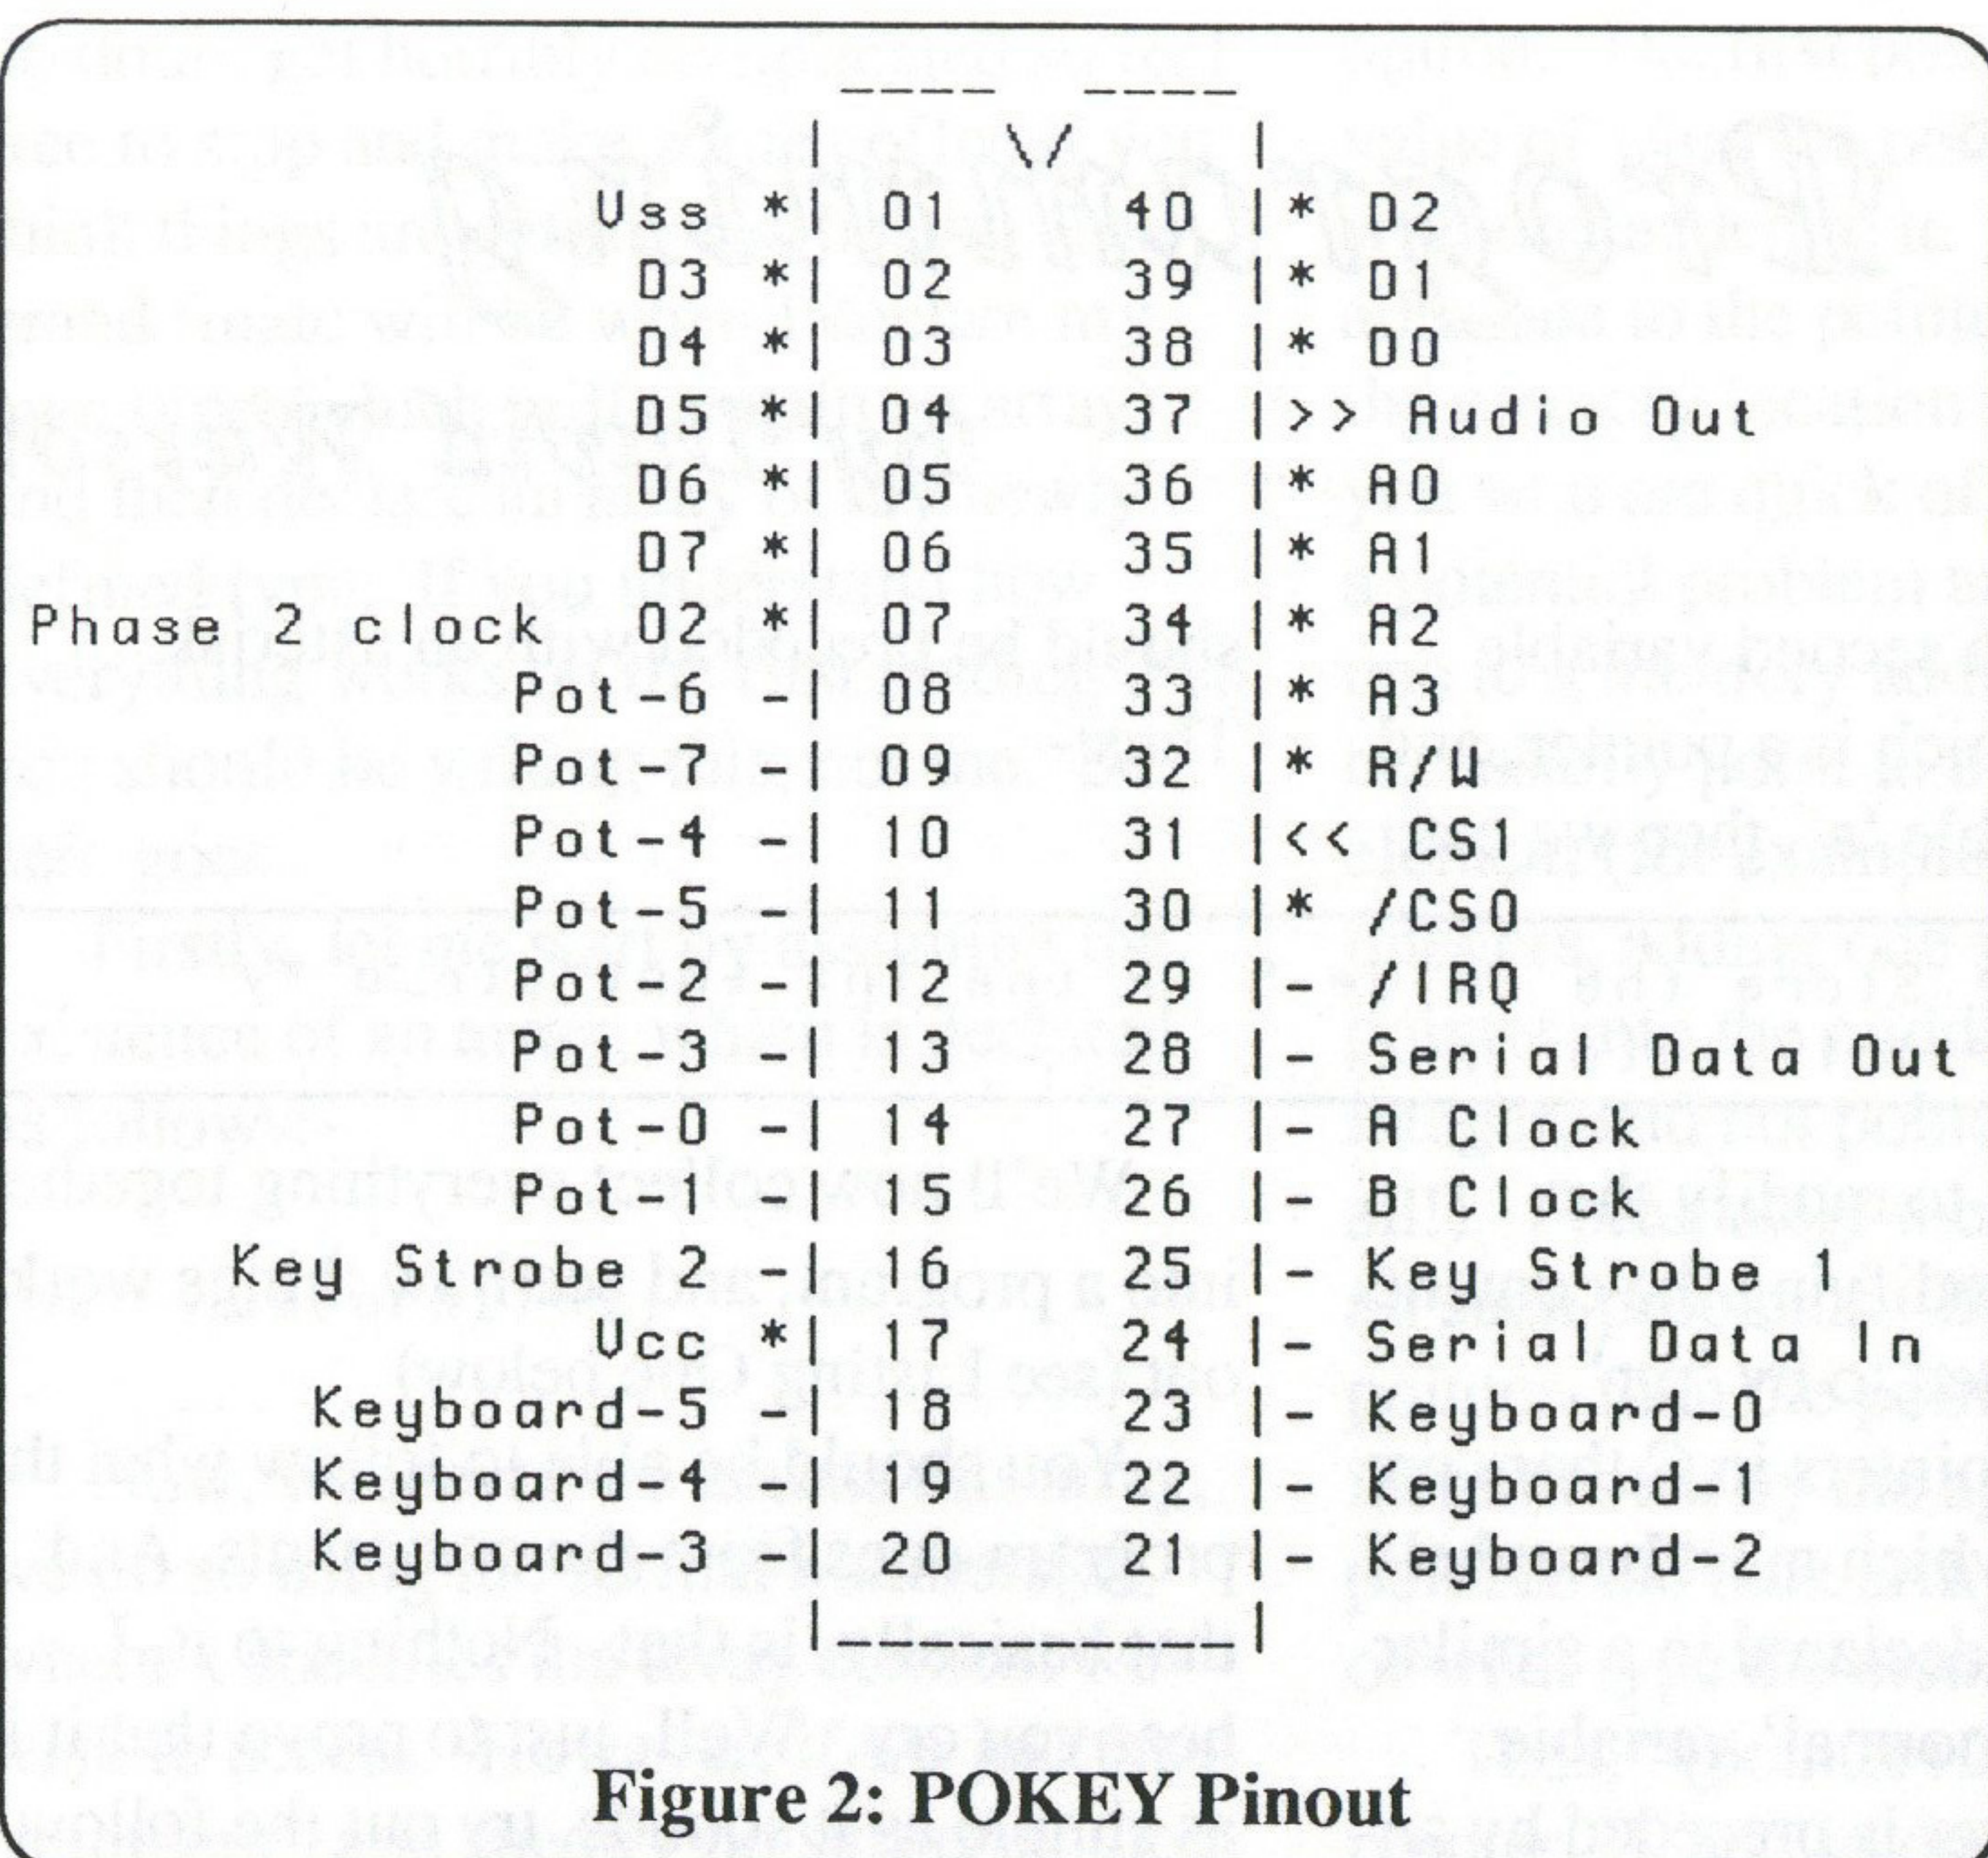

Figure 2: POKEY Pinout
- a) Bend up all pins on the new POKEY which are marked with a minus on the diagram (see Figure 2). This includes POKEY pins: 8, 9, 10, 11, 12, 13, 14, 15, 16, 18, 19, 20, 21, 22, 23, 24, 25, 26, 27, 28, and 29.